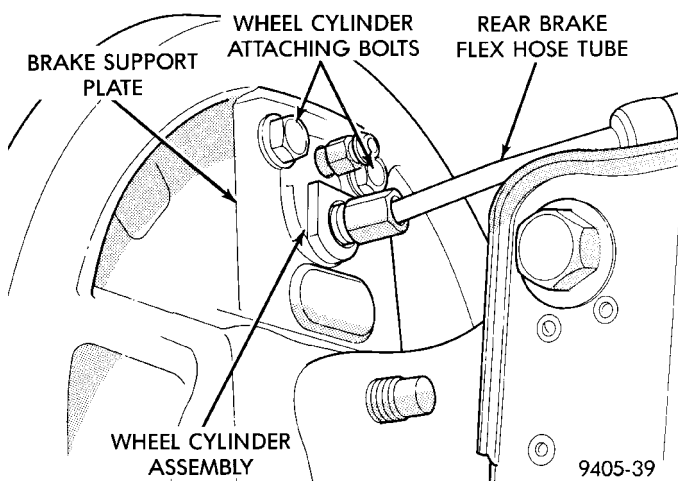

Fig. 94 Brake Flex Hose At Wheel Cylinder
(6) Disconnect the rear brake flex hose from the wheel cylinder (Fig. 94).
(7) Remove rear wheel cylinder attaching bolts (Fig. 94).